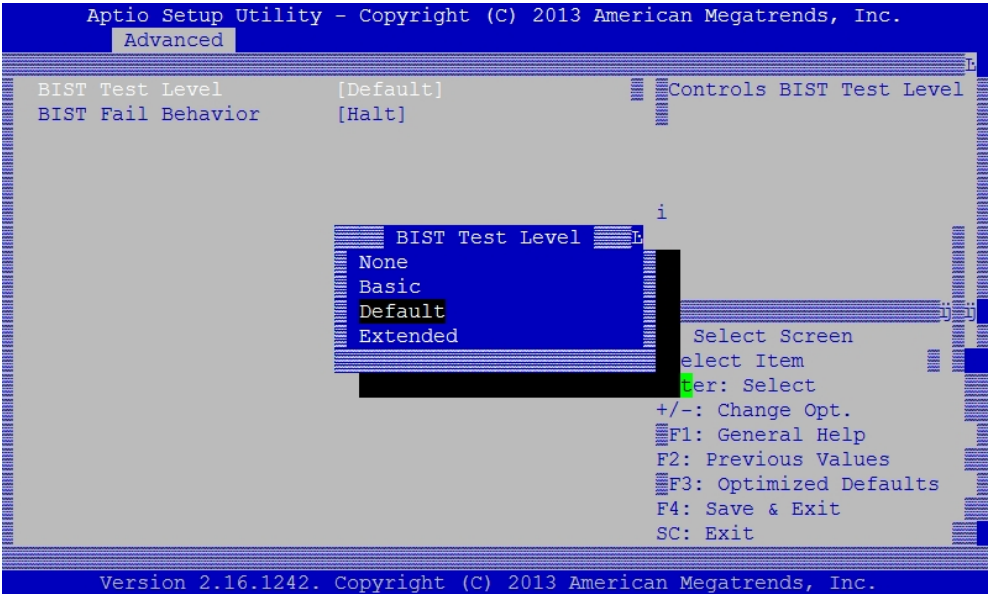

Figure 7-14: BIST Test Level options
4. Select *BIST Test Level* to display the *Test Level options pop-up* (Figure 7-14 below). The level options are listed in the following table (Table 7-1 on the next page).